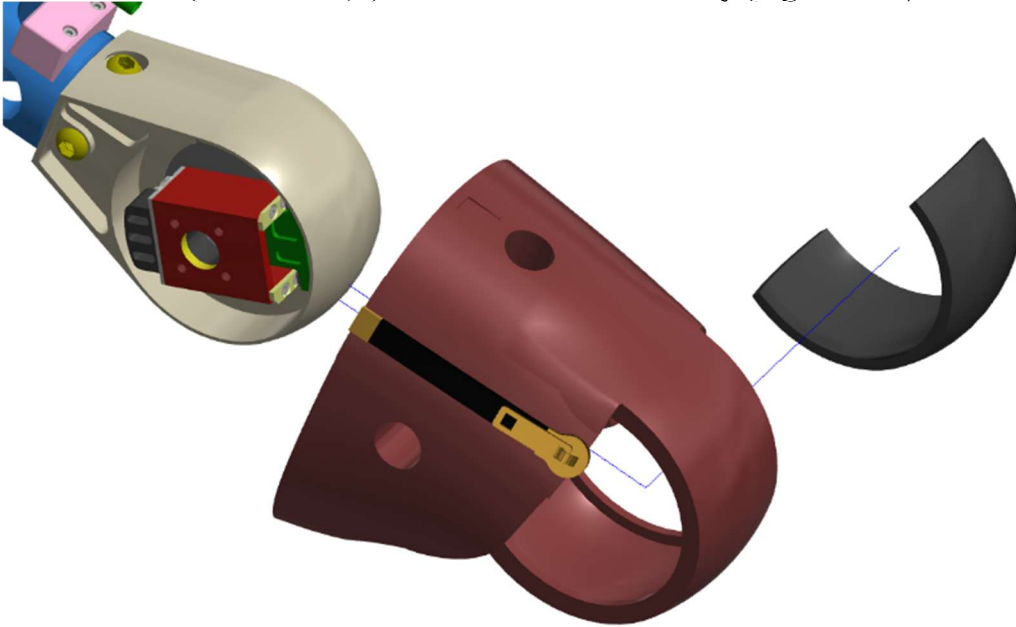
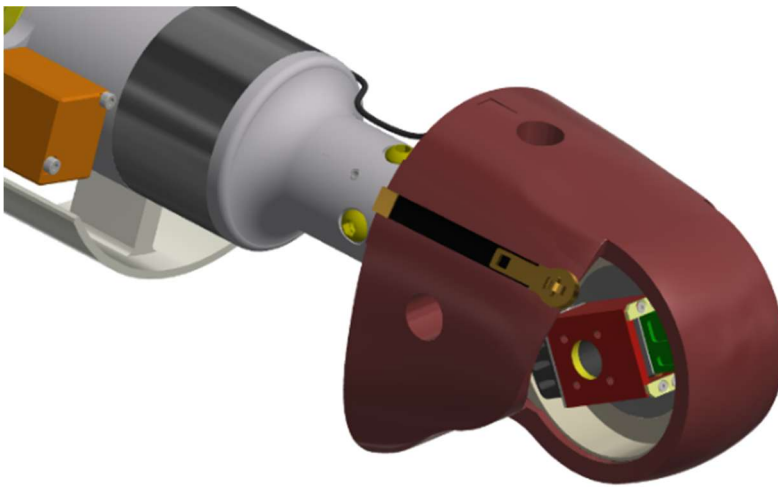

Figure 9-44. Install the Knee Insert (474-5340)
Figure 9-45. Install and zip the Knee Flesh 474-5321-1,2)
9.3.12 Install the Knee Insert (474-5340) in the Knee Flesh (Figure 9-44). Zip the Knee Flesh (474-5321-1,2) around the Knee Assembly (Figure 9-45).